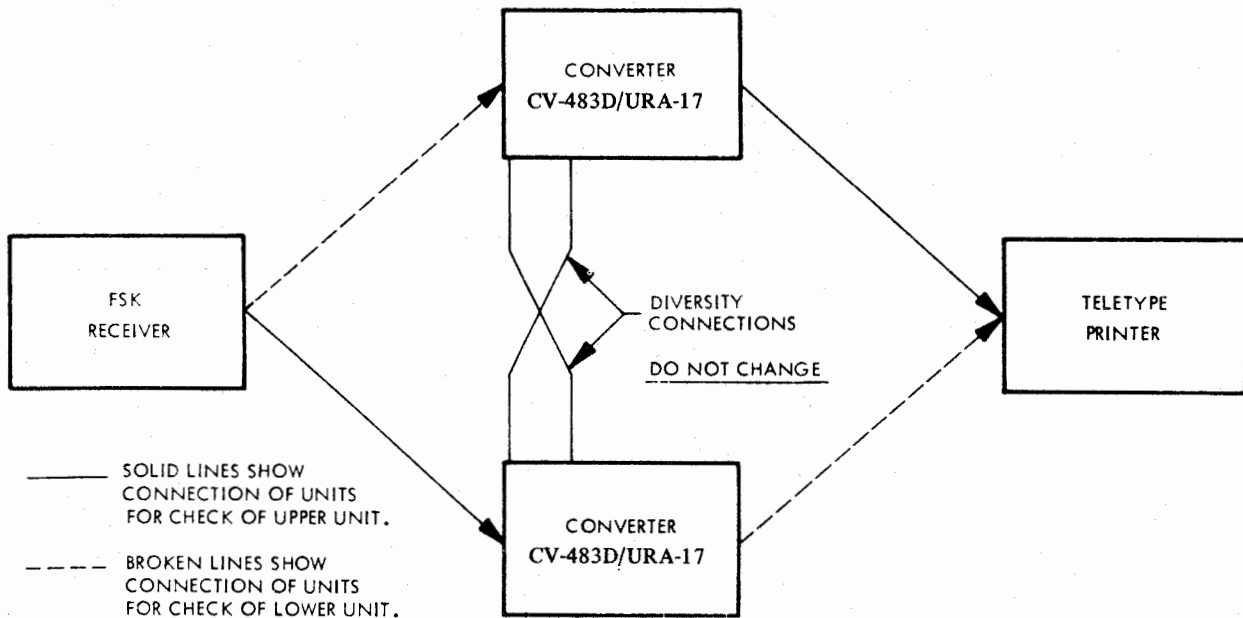

Figure 3-3. Connections between Receiver, Teletype Printer, and Converter Group for Daily Check of Diversity Operation
- Step 2. Connect receiver (tuned for fsk reception) to AUDIO INPUT receptacle on one converter (see figure 3-3).
- Step 6. If teletype printer prints readable copy, switch receiver and teletype printer connections to converters as shown by broken lines in figure 3-3. If teletype printer does not print, notify technician.